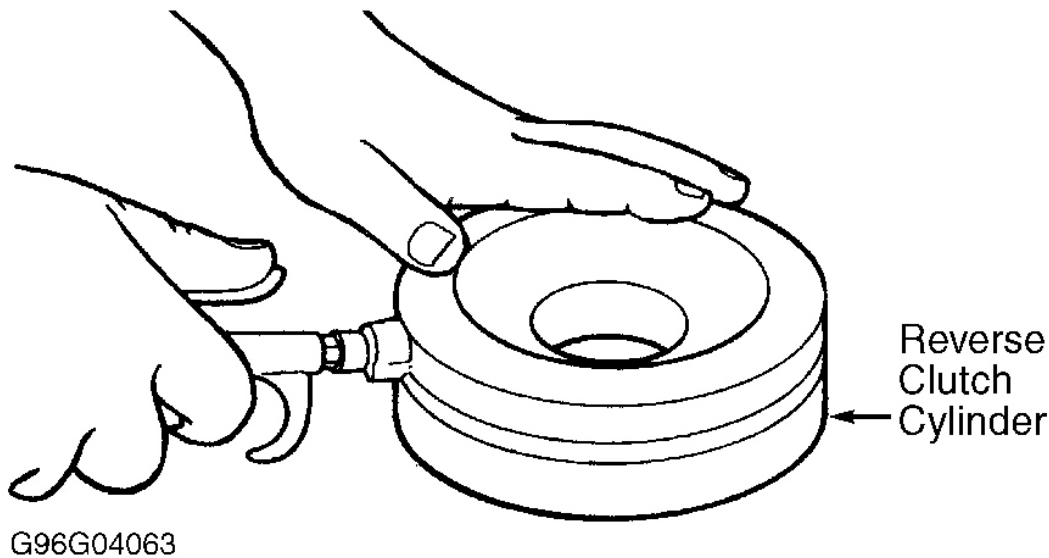

Fig. 30: Checking Reverse Clutch Operation
2. Check reverse clutch operation. Using air pressure, apply about 40 psi to reverse clutch cylinder. See Fig. 30. Ensure thud is heard or movement is felt. Check clutch pack clearance using a feeler gauge. Take 2